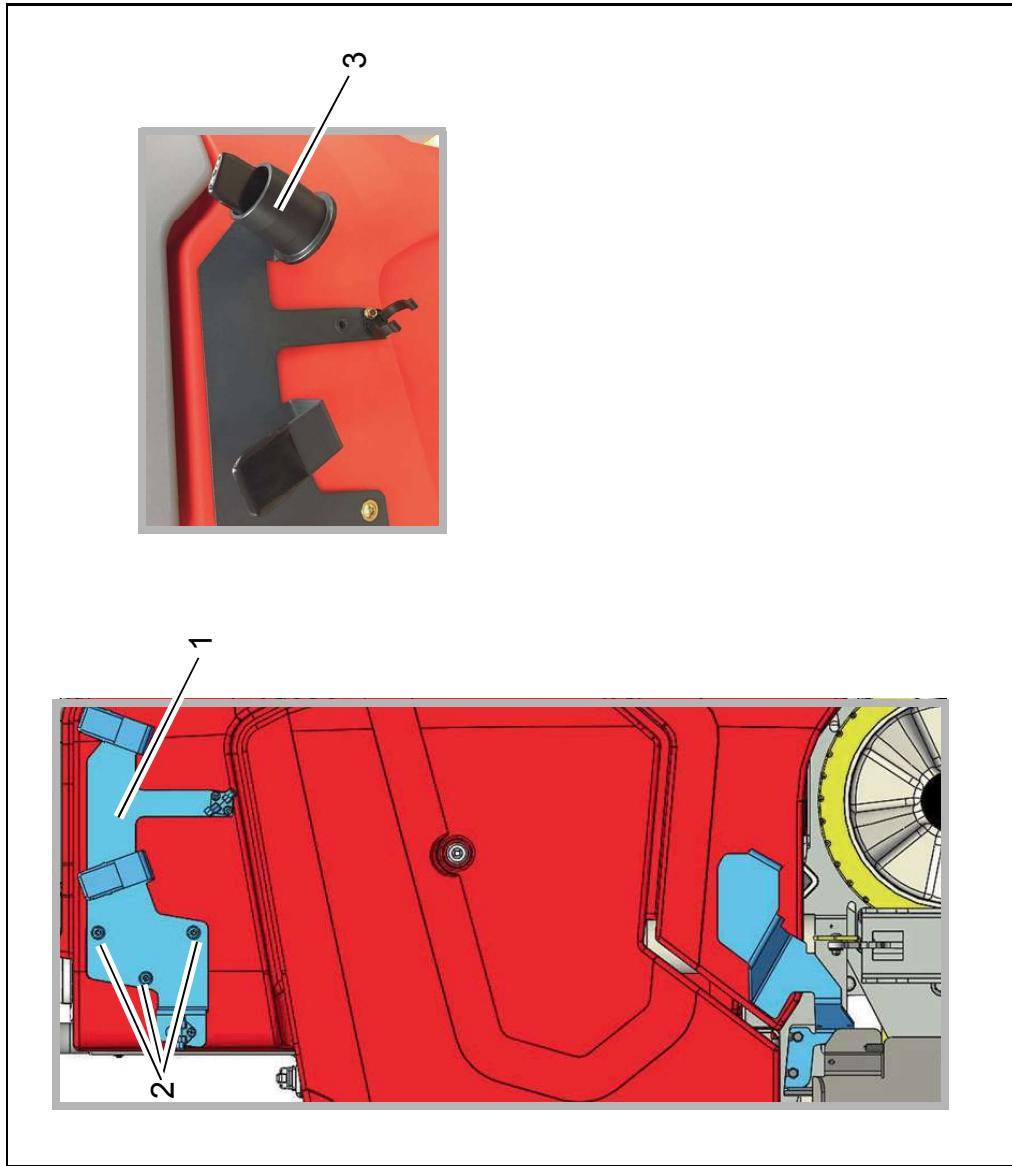

Fig. 2
1. Holder, pre-assembled (Fig. 2/1) fit to left side of machine with flanged button head bolts M8x12 (Fig. 2/2) as shown in the illustration. Maximum tightening torque 10 Nm.
2. Fit sleeve to holder (Fig. 2/3)
Machine with rotating brush(Fig. 2/A)
1. Slacken M8x25 fastening screws of the side scraper a little (Fig. 2/1). Slide set-down plate until it comes up against the slackened screws (Fig. 2/2).
Machine with roller brush (Fig. 2/B)
1. Slacken M8x25 fastening screws of the side scraper a little (Fig. 2/3). Guide the set-down plate through the opening of the scraper (Fig. 2/4).
2. Slide set-down plate until it comes up against the slackened screws (Fig. 2/5).